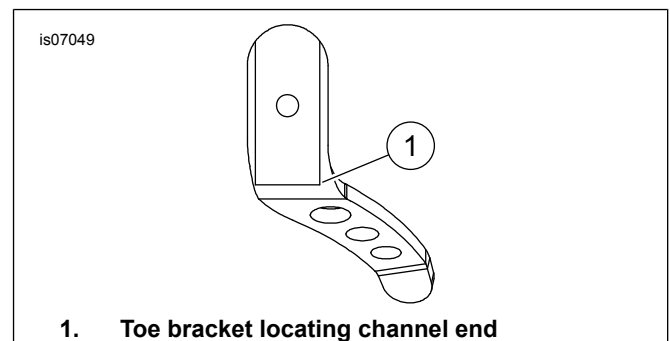
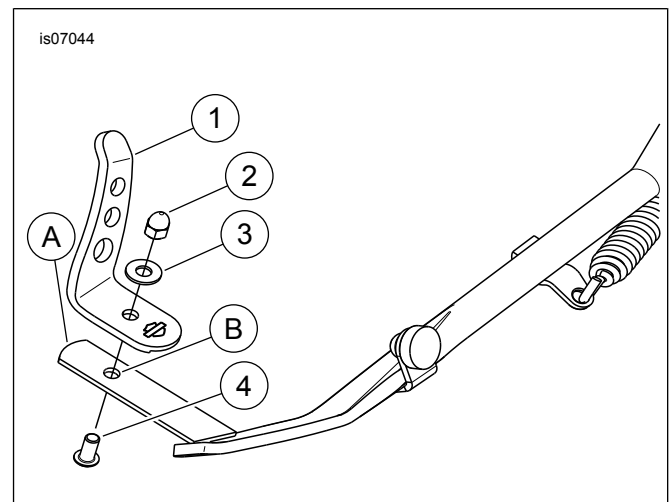

Figure 1. Toe Bracket Locating Channel
Figure 2. Service Parts: Jiffy Stand Extension
See Figure 2 and Table 1.
- See Figure 1. Align alignment channel end (1) of extension (1, Figure 2) to end of toe bracket (A, Figure 2) on top of jiffy stand.
- Drill jiffy stand extension mounting hole (B) into toe bracket of jiffy stand as follows:
- See Figure 2. **Kit 50000023:** apply a small amount of threadlocker to threads of screw (4).
- Place extension (1) over jiffy stand toe bracket (A).
- See Figure 2. Secure extension (1) to toe bracket (A) with screw (4), washer (3) and acorn nut (2). Tighten.